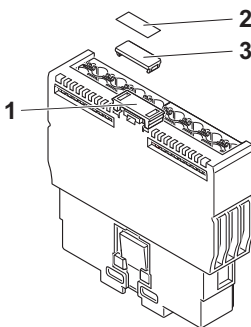

Figure 4-5 Equipment identification
- Stick a label to the release mechanism (1 in Figure 4-5).